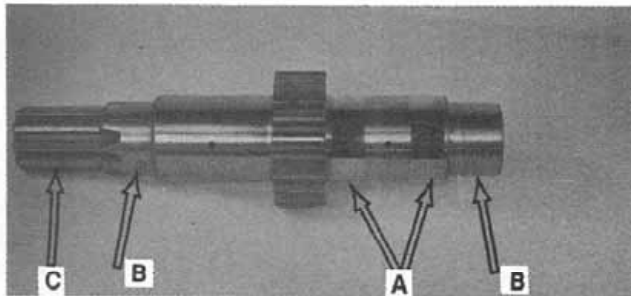

Figure 1:
The input shaft displayed (Fig. 1) is reusable as long as the highly polished areas (A) do not show any spalling or dimensional change and there is no evidence of bearing creeping on the support bearing journals (B). If the input shaft is from a Model E or Model F transfer case where the splined yoke serves as a slip joint on the shaft (C), spline wear should also be a consideration.